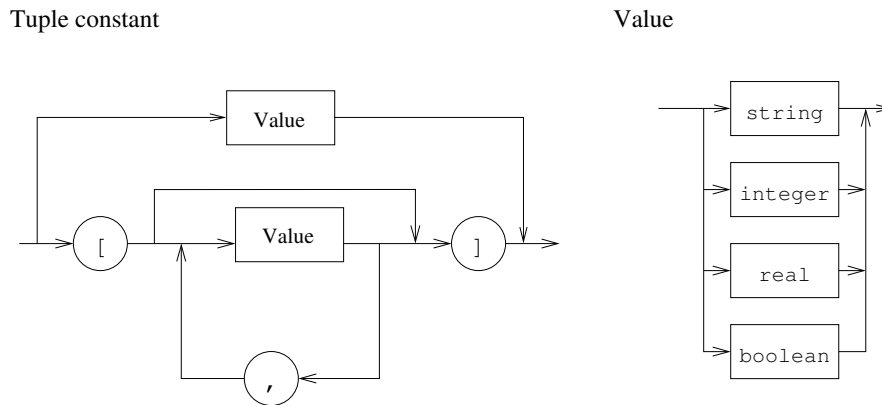

Figure 7.1: The syntax of tuple constants.
**tuple** The control types are only used within the generic HDevelop type *tuple*. A tuple of length 1 is interpreted as an atomic value. A tuple may consist of several numerical data items with *different* types. The standard representation of a tuple is a listing of its elements included into brackets. This is illustrated in figure 7.1.